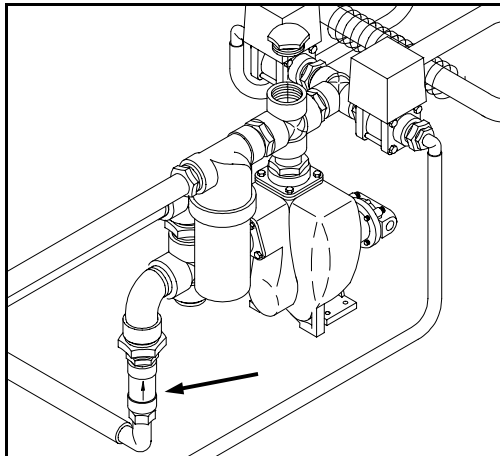
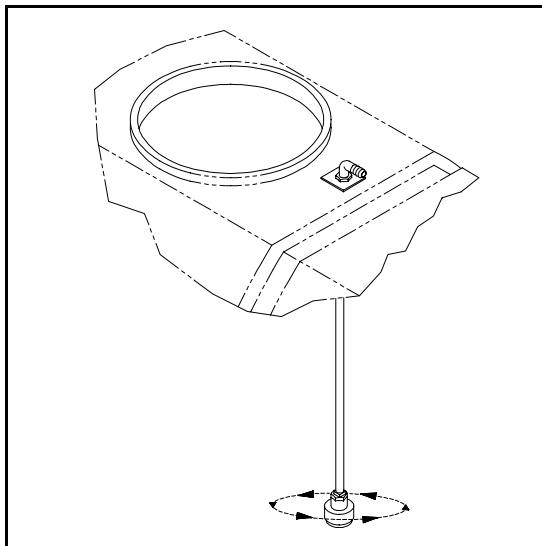
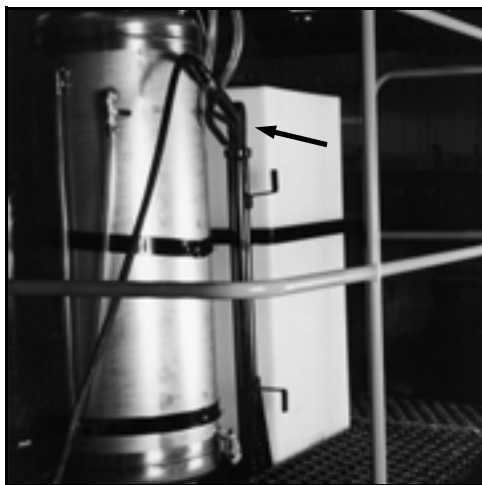

FIG 5.95
FIG 5.96
FIG 5.102
Rinse solution flows from the rinse tank to the solution pump. The rinse passes through a flow-check valve (fig. 5.95). The valve keeps the rinse line clean from spray solution when the rinse system is idle. The solution pump pumps the rinse through a rotary nozzle into either solution tank (fig. 5.96).
The spray wand is located between the foam tank and the rinse tank (fig. 5.102). Spray pressure is indicated by the gauge mounted above the pressure pump (fig. 5.96, item 1).